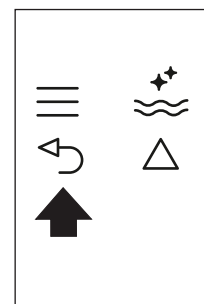

Fig. 25
- ▶ Press the ↵ icon (B6) (Fig. 25) twice to exit the menu.